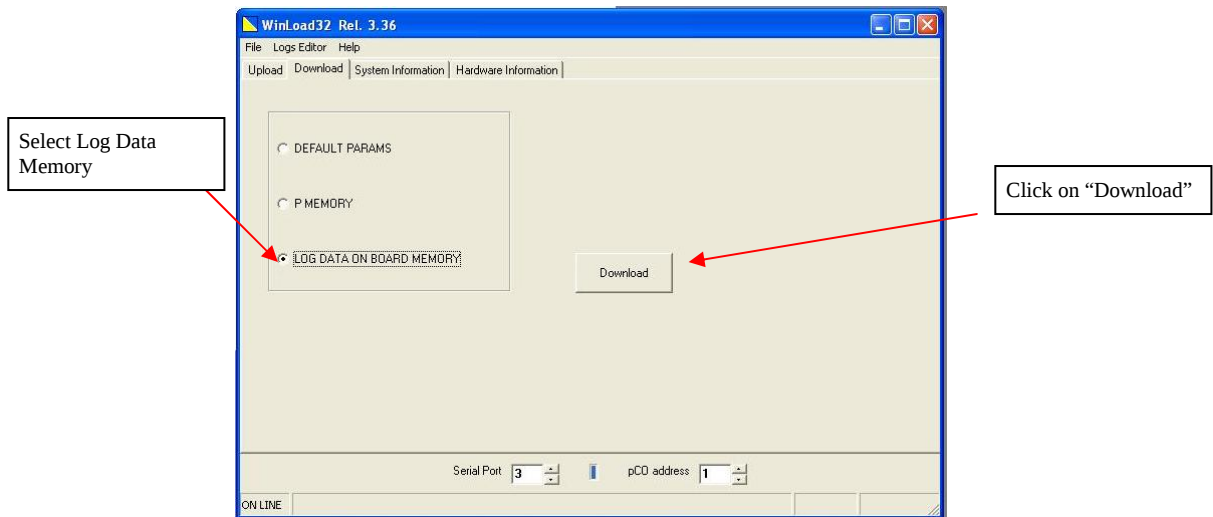

Figure 6.2.1
- ii. Select the "Download" tab and select "LOG DATA". Then click the "Download" button. (Figure 6.2.1)